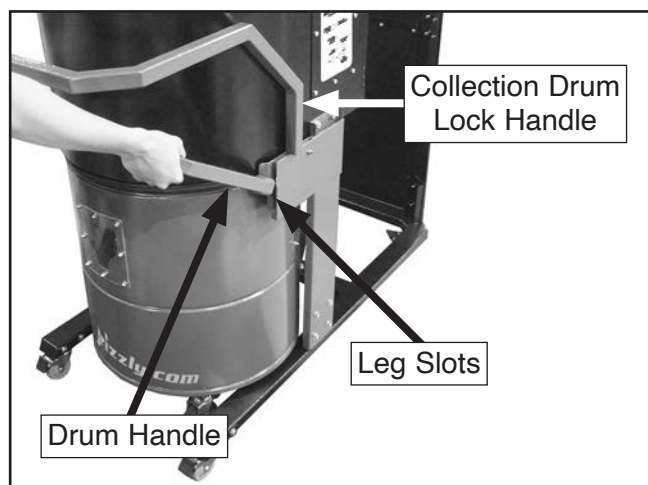

Figure 30. Aligning collection drum with front of machine.
15. Roll collection drum to front of machine, lift collection drum handle, then push drum into slots in legs (see **Figure 30**). Lower drum handle to engage lock handle.